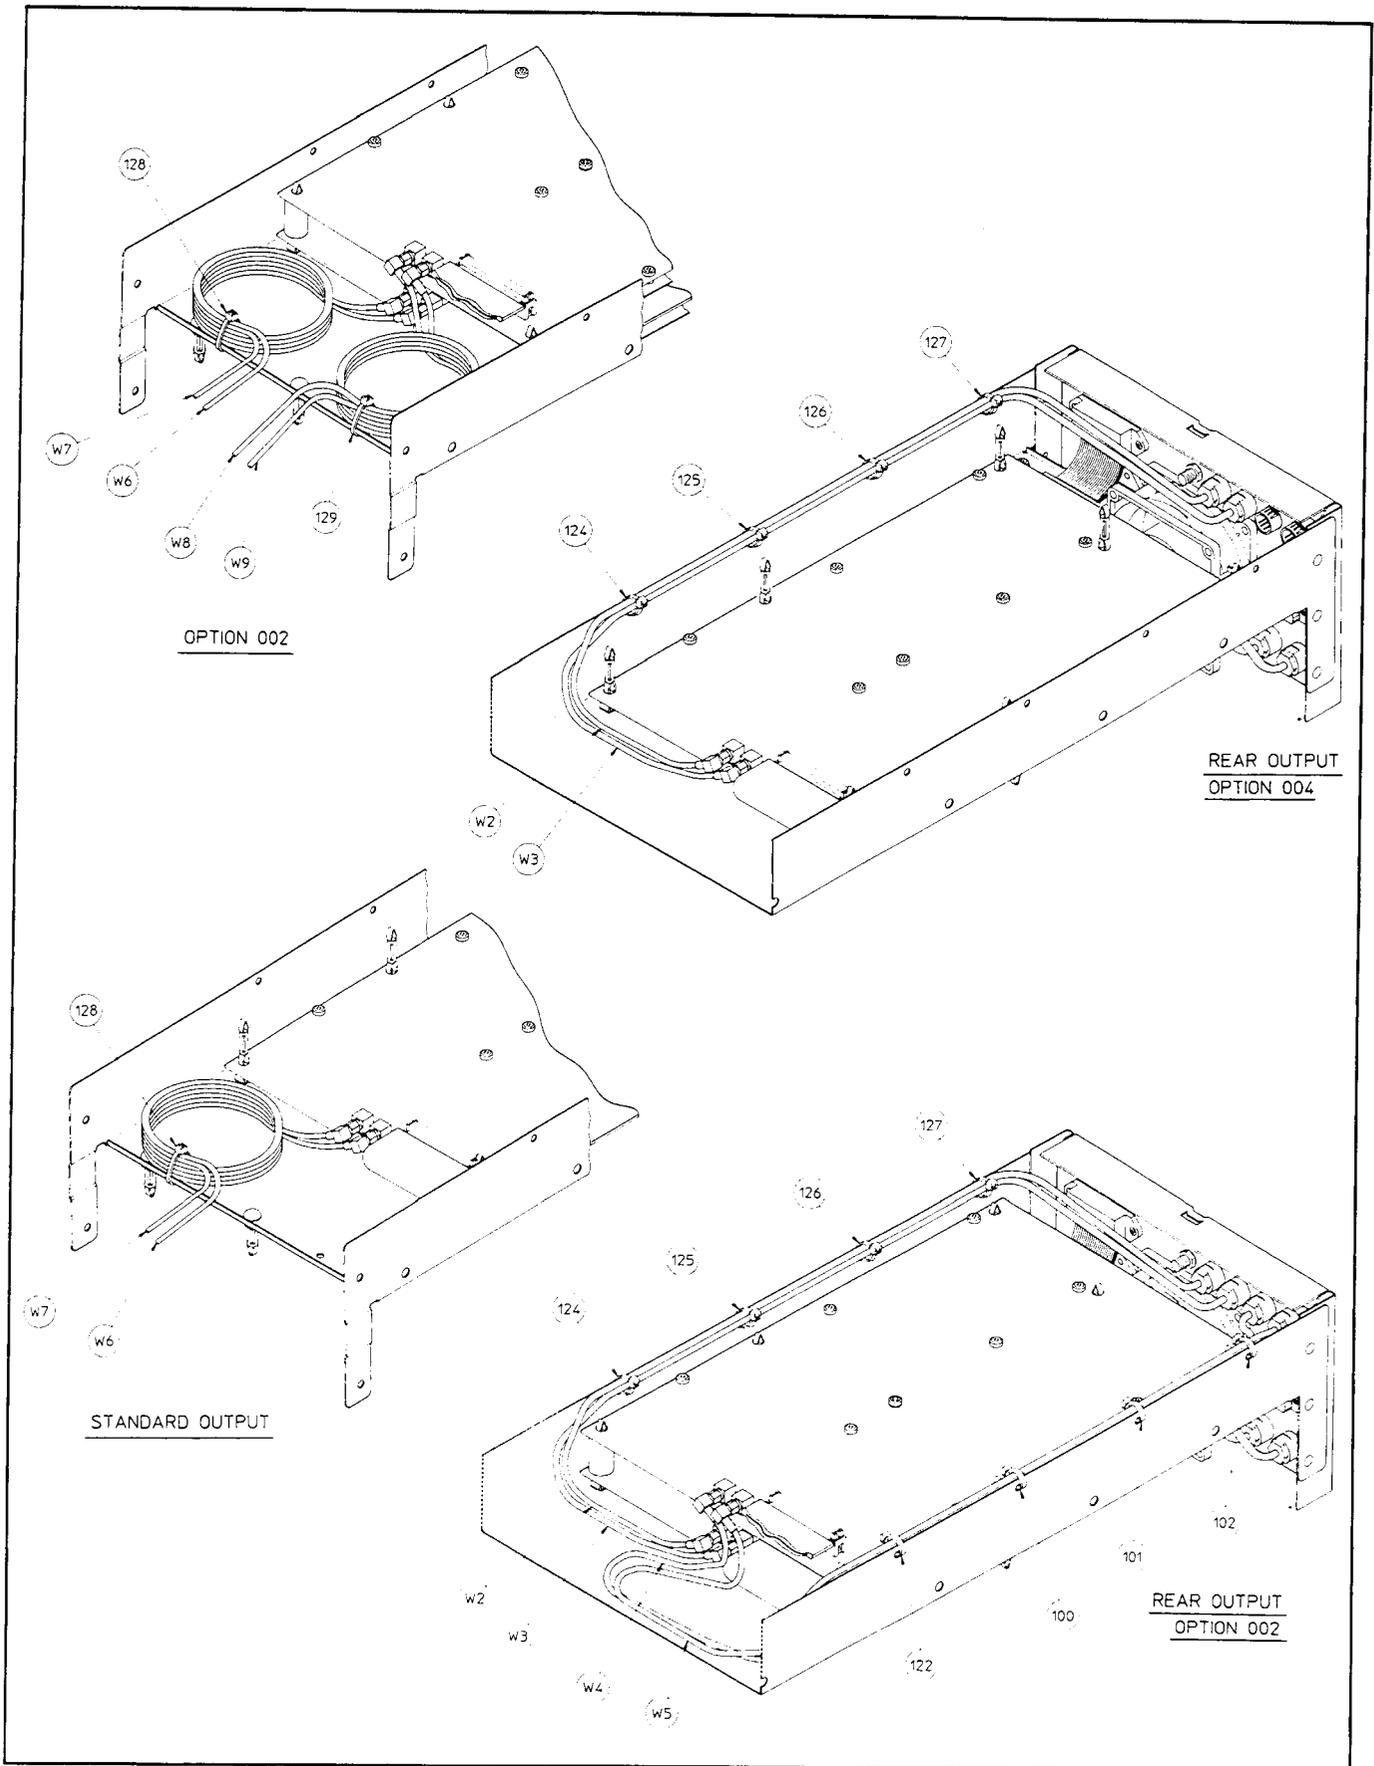

Figure 7-3. Output Cable Routing (All Options)
2. After all of the connectors have been transferred to the rear panel, secure the cables to the side rail as shown in figure 7-3 using the new cable ties.
2. After all of the connectors have been transferred to the front panel, loop the cables and secure them to the front of the deck using the new cable ties as shown in figure 7-3.